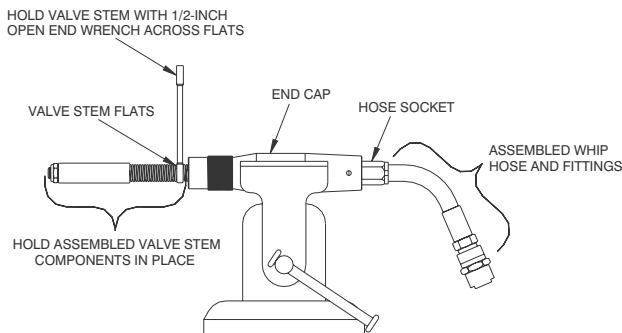

Figure 9-32. Hold Valve Stem in Place
6. With the End Cap secured in a vice, hold the Valve Stem (11) at its flats with an 1/2-inch open end wrench. Refer to Figure 9-32.
7. Push the Valve (7) toward the End Cap (16) until the flats of the Hose Socket (17) project from the Whip Hose end of the End Cap. Refer to Figure 9-32.